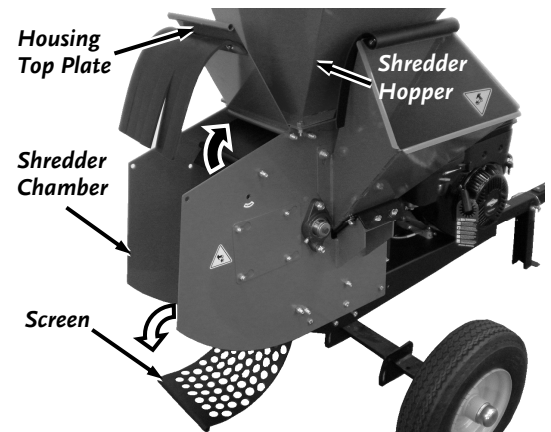

Figure 42
5. Rotate the Housing Top Plate up towards the Hopper, exposing the Screen (**Figure 42**).
20. Reposition the Screen and reinstall the Upper Screen Retaining Bolt and Lock Nut. Tighten the Upper and Lower Screen Bolts (**Figure 42**).